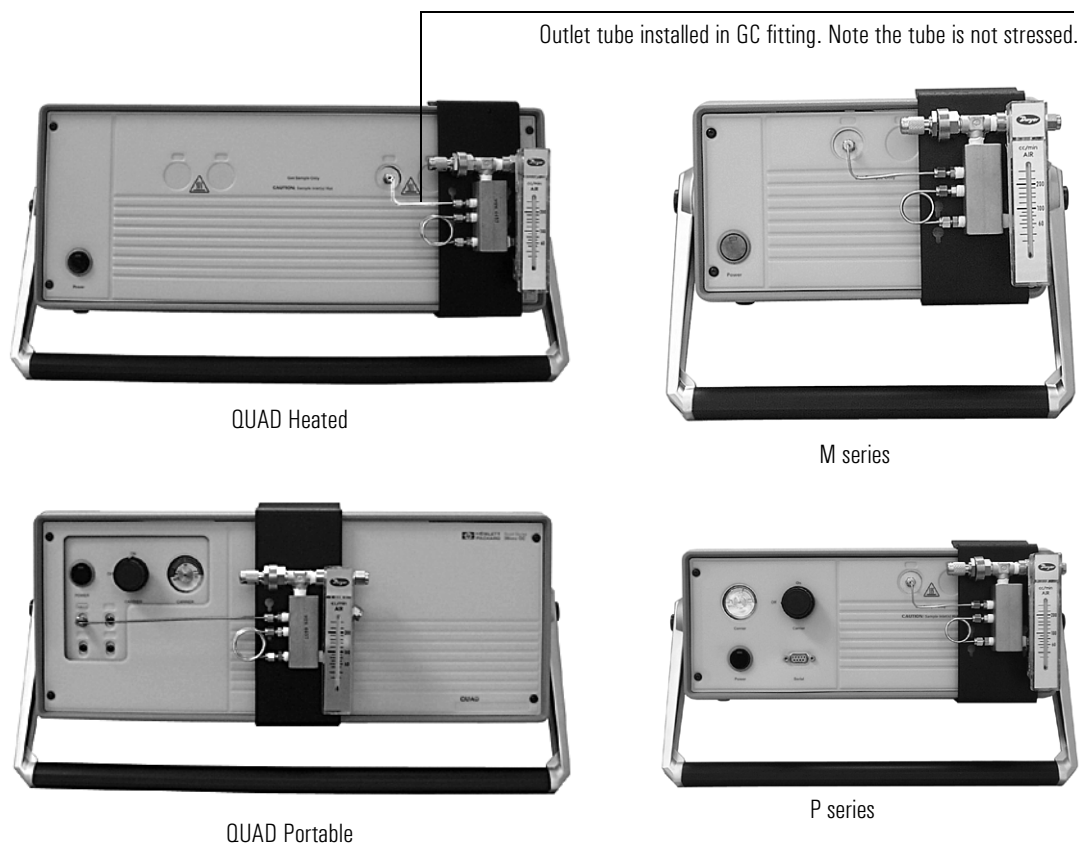

Figure 5. Flow controller, installed
6. While checking the alignment of the outlet tubing and the GC inlet fitting, tilt the bracket up and snap it onto the front of the instrument. When properly mounted, the bracket should be flat against the GC frame. Insert the outlet tubing into the GC fitting. See Figure 5.